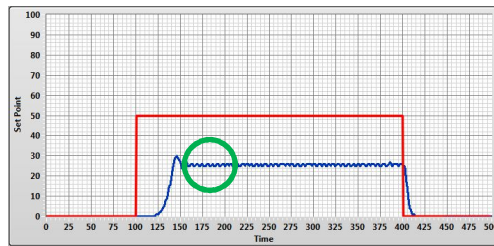

Fig. 15 – Oscillating System
- 4) Increase the  $K_p = K_{osc}$  gain until the system starts oscillating. In fig. 15 the red line is the reference and the blue line is the transducer voltage value.